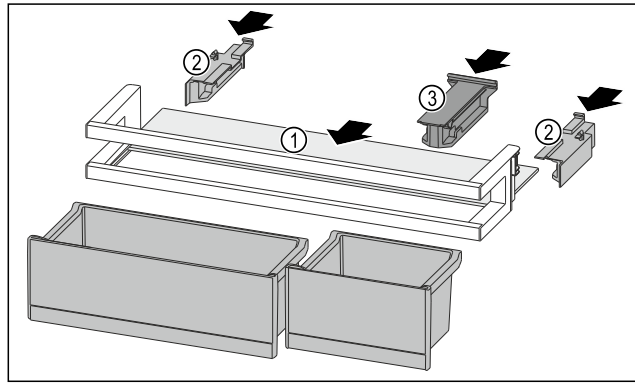

Fig. 201
- ▶ Push the shelf Fig. 201 (1) into the side recesses.
- ▶ Insert the side parts Fig. 201 (2).
- ▶ Insert the holding part Fig. 201 (3).